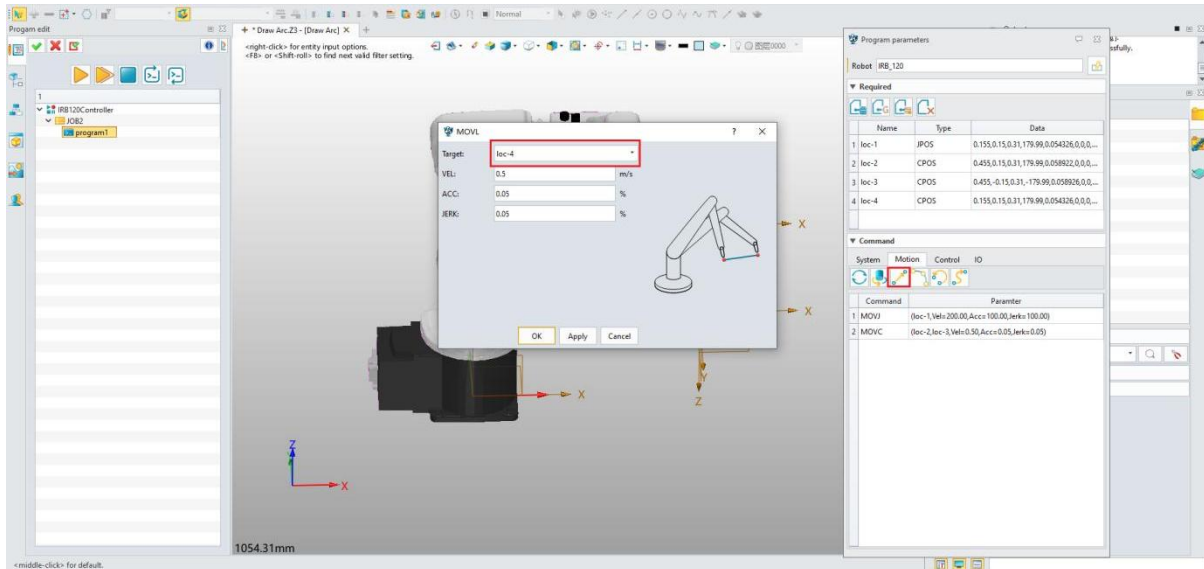

Figure 9-15: MOVL
- Add MovL Command: Then add the MOVJ instruction, with the parameter settings shown in the figure, the target point being loc-4, and other parameters remaining at default. (Figure 9-15)